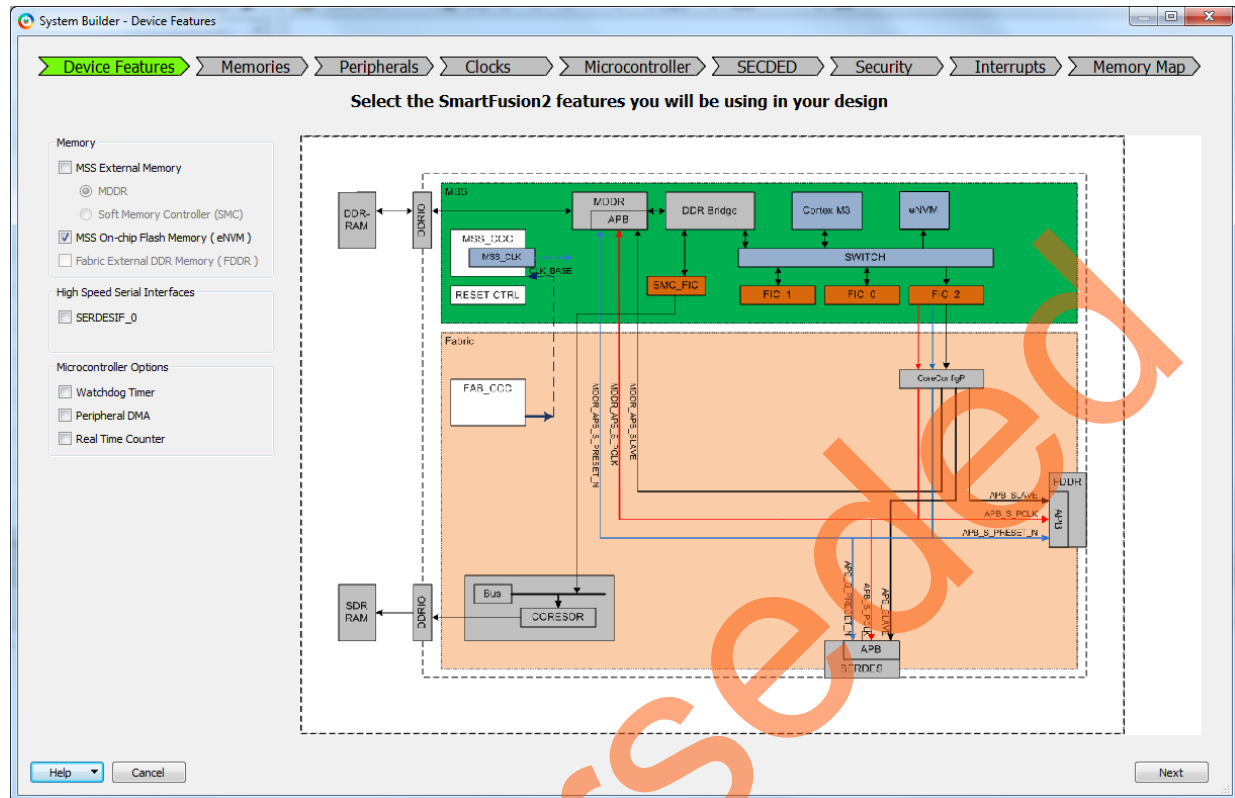

Figure 7 • SmartFusion2 - Device Features Page
1. In the **Device Features** page, ensure that **MSS On-chip Flash Memory (eNVM)** check box is checked, as shown in Figure 7.